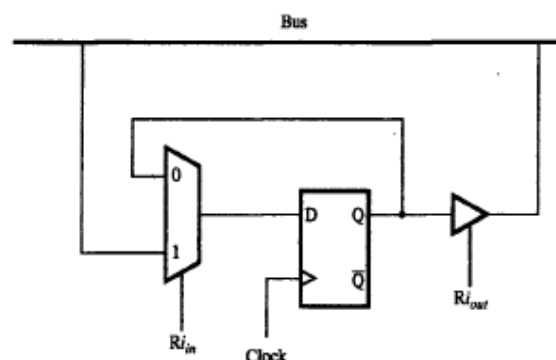

Figure 7.3 Input and output gating for one register bit.
- $Ri_{in}=1$   $\square$  mux selects data on bus. This data will be loaded into flip-flop at rising-edge of clock.  $Ri_{in}=0$   $\square$  mux feeds back the value currently stored in flip-flop (Figure 7.3).